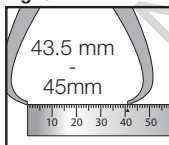

Fig. 4
3. Measure the diameter using a gauge/caliper with a 150mm rule, as shown in (fig. 4).